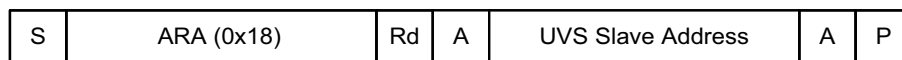

Fig. 10 - Command Format for Responds to an ARA
- (1) If the host implements the INT function, it performs a modified received byte operation to disengage VEML6070's acknowledge signal and acknowledge alert response address (ARA), 0x18 (Hex). A command format for responses to an ARA is shown in Fig. 10.